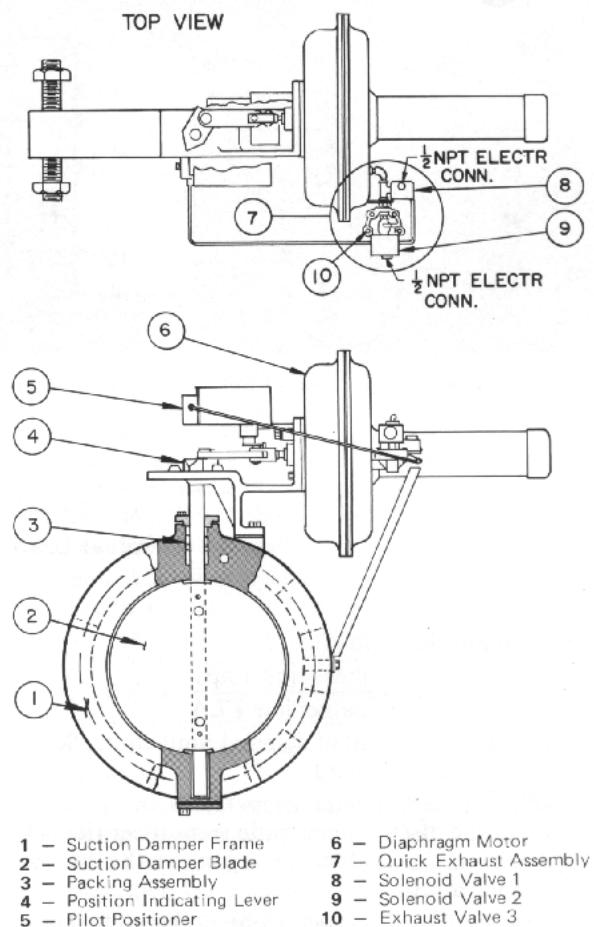

Fig. 8 — Automatic Suction Damper
Check that solenoid valve 1 (item 8, Fig. 8) of the quick-exhaust assembly closes and solenoid valve 2 (item 9) opens on machine shutdown.